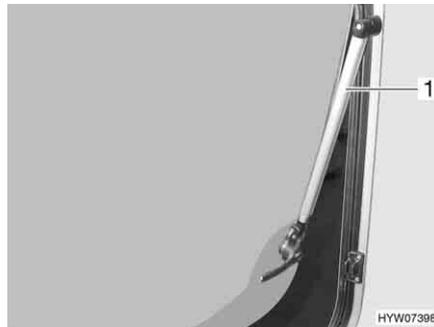

Fig. 64 Hinged window with automatic hinges
- Open the hinged window to the desired latched position. The automatic hinge (Fig. 64,1) locks in place automatically.